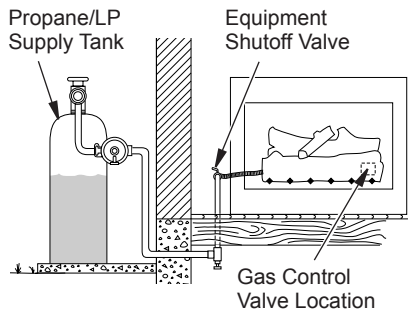

Figure 16 - Checking Gas Joints (Propane/LP Model Shown)
3. Check all joints from gas meter to equipment shutoff valve for natural gas or propane/LP supply to equipment shutoff valve for propane/LP (see Figures 16 and 17). Apply noncorrosive leak detection fluid to all joints. Bubbles forming show a leak.
4. Check all joints from equipment shutoff valve to gas control (see Figures 16 and 17, page 16). Apply noncorrosive leak detection fluid to all joints. Bubbles forming show a leak.